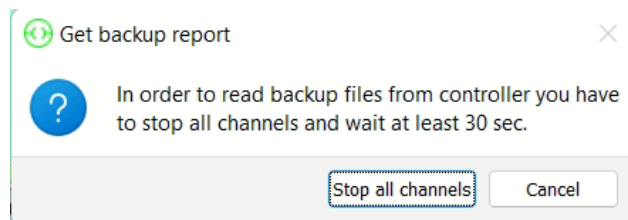

Figure 114: Recovering Chart Data - Stop All Channels Notification
2. If there are channels currently running processes, you will see the pop-up window shown in Figure 114 below.